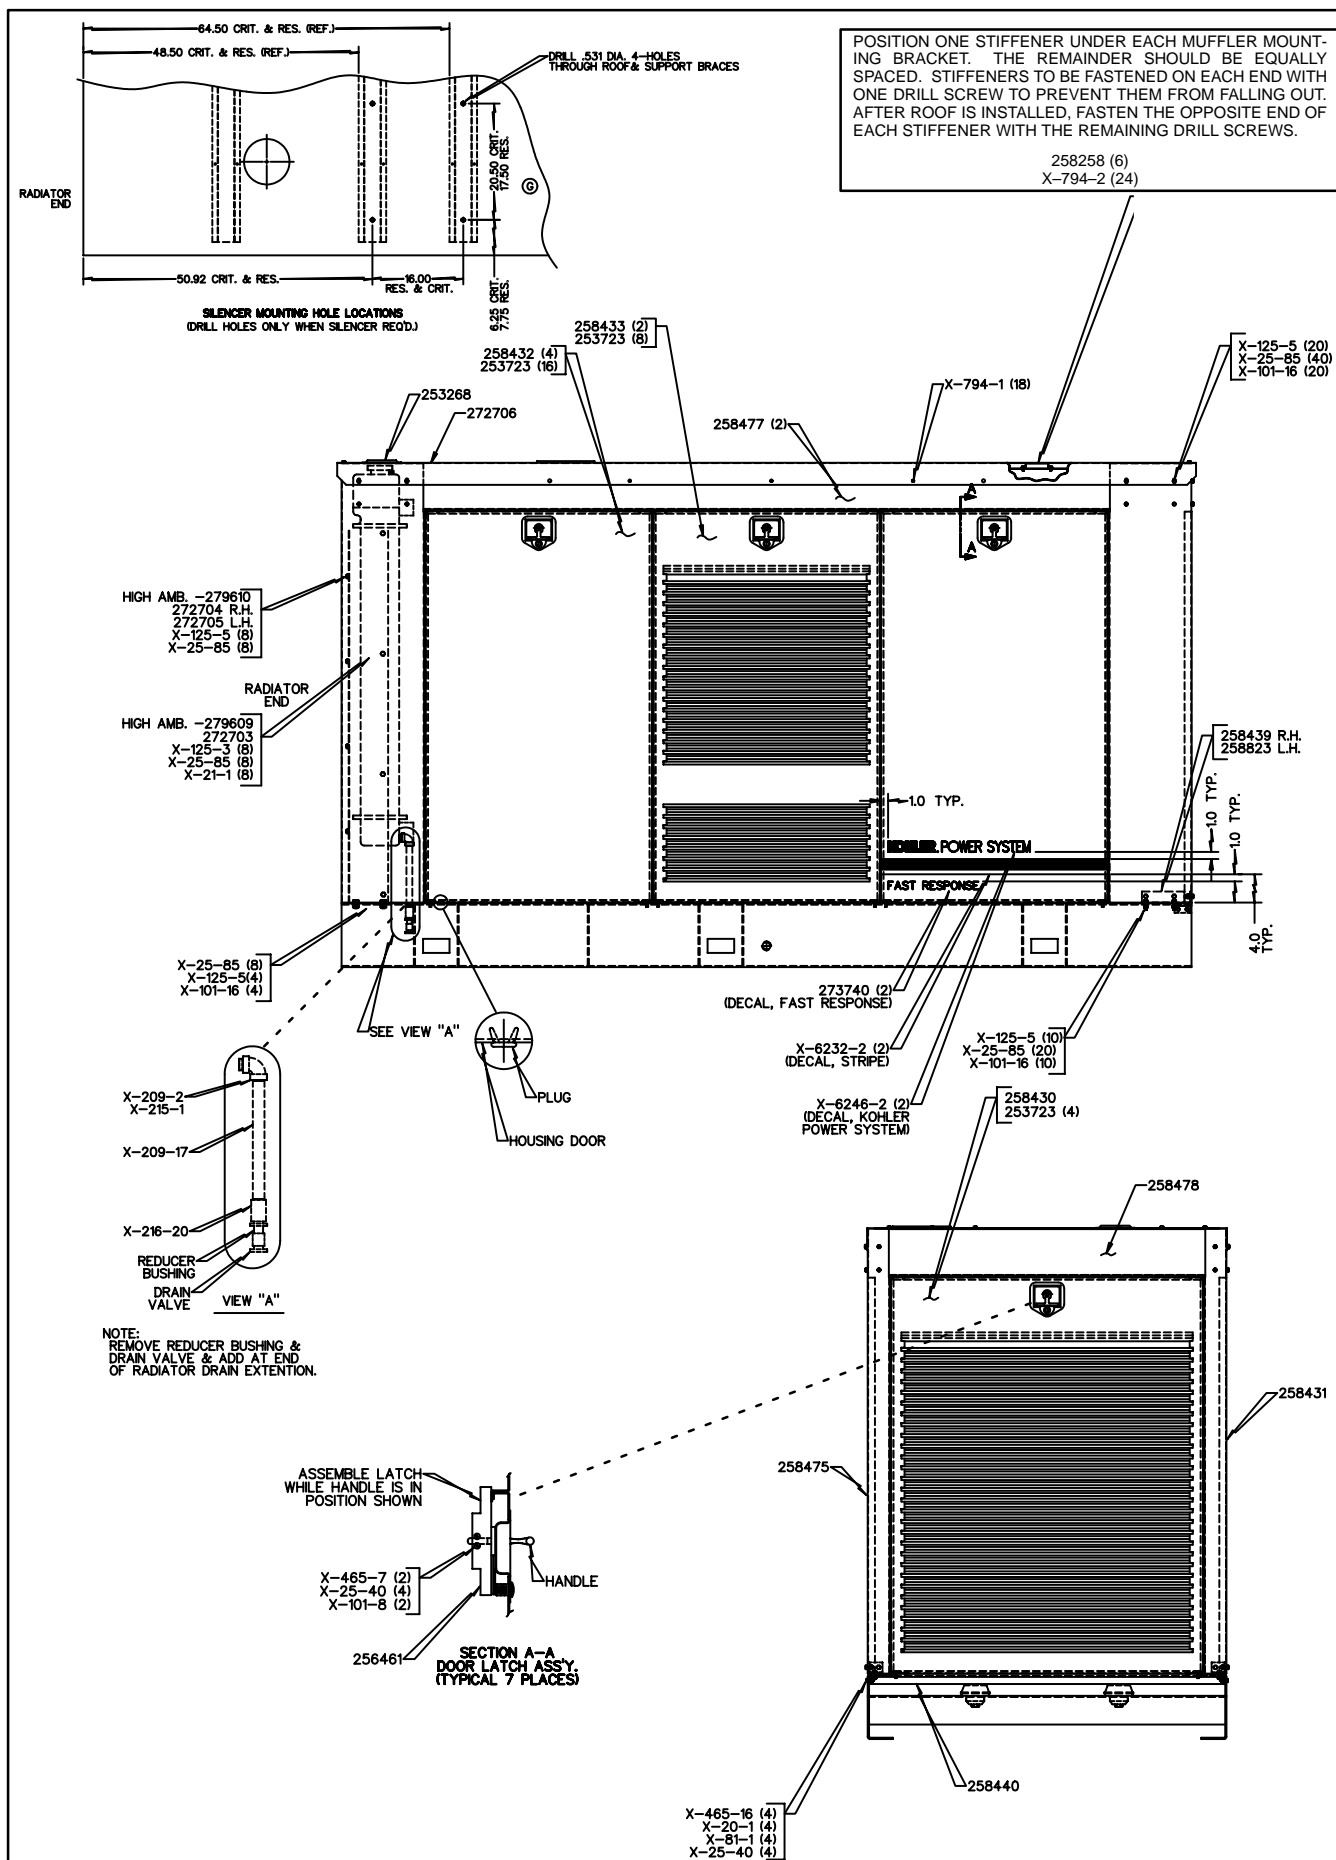

Figure 1. Weather Housing Installation
2. Refer to the assembly drawing in Figure 1 to identify kit components and their relative position.
3. After engine has cooled, release radiator pressure by removing cap. See "Warning" above. Open radiator petcock to drain radiator coolant. Remove petcock and reducer bushing from radiator and install elbow (X-215-1), coupling (X-216-20), nipple (X-209-2), and pipe (X-209-17) as shown in Figure 1. Reinstall reducer bushing and petcock in coupling. Refill cooling system with fresh coolant.
11. Position roof stiffeners (258258) between housing side rails. Install one stiffener under each muffler mounting bracket (if used – see Figure 1 for silencer mounting hole location). The remaining stiffeners should be equally spaced over the length of the housing. Secure stiffener on one end with drill screw (X–794–2). After roof is attached in next step fasten the remaining end of each stiffener to side rail with drill screws (X–794–2)
14. Position rear mounting bracket (258440) on alternator end of housing as shown in Figure 1. Secure to skid with screws (X–465–16), flat washers (X–25–40), lock washers (X–20–1), and hex nuts (X–81–1).
15. Attach latch (256461) to each door handle with screw (X–465–7), flat washer (X–25–40), and elastic stop nut (X–101–8). Latch handle must be in position shown in Figure 1 during installation.